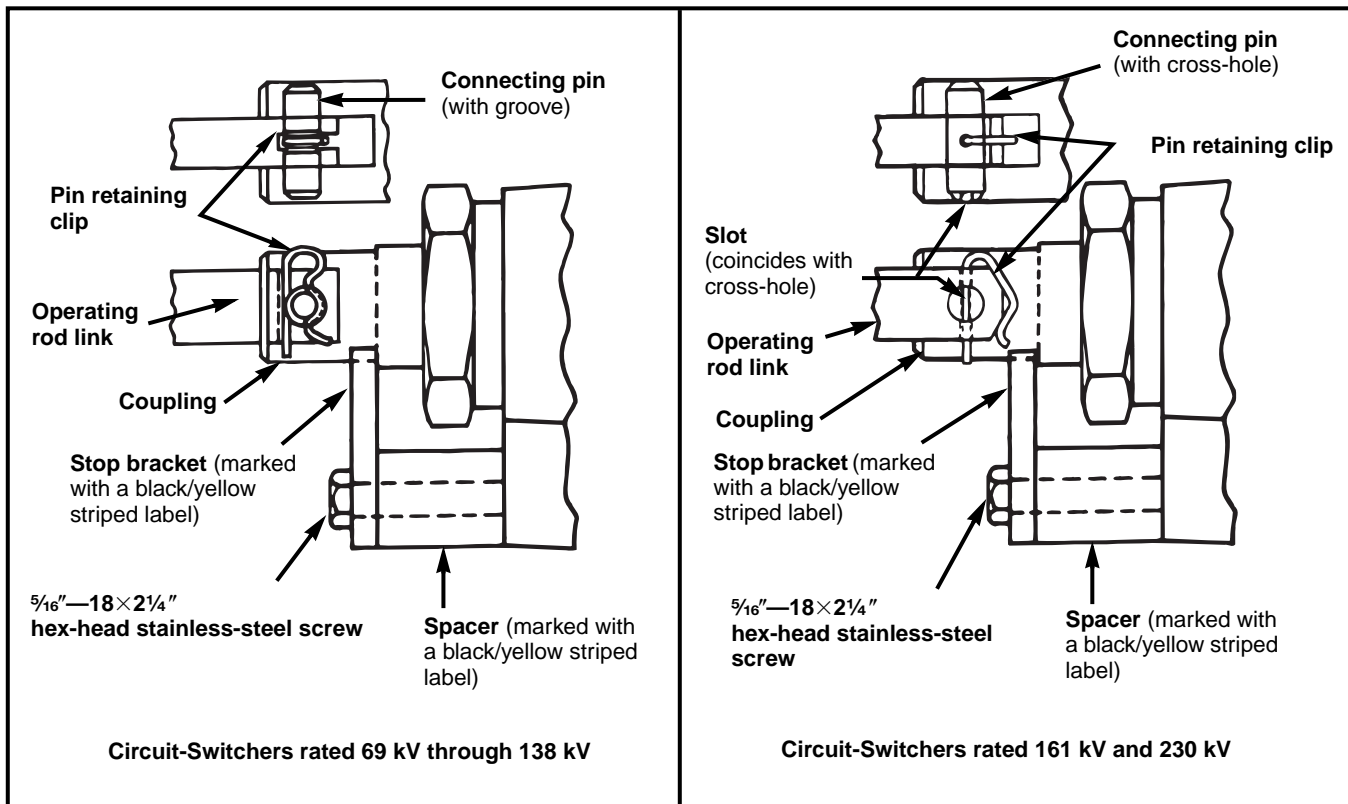

Figure 13. Coupling replacement interrupter.
**For Circuit-Switchers rated 69 kV through 138 kV:** Insert the connecting pin retained from Step 28 into the coupling and operating rod link. See Figure 13 (left). *It will be necessary to loosen the  $\frac{5}{16}$ "—18×2¼" hex-head stainless-steel screw indicated in Figure 13 (left) and withdraw it approximately ⅛ inch, so that the connecting pin can be inserted. Do not remove the screw at this time.* Now insert the pin retaining clip retained from Step 28 as indicated in Figure 13 (left). *Make sure that the clip is positioned as shown.* Finally, remove and discard the  $\frac{5}{16}$ "—18×2¼" hex-head stainless-steel screw, stop bracket (marked with a black/yellow striped label), and spacer (marked with a black/yellow striped label) illustrated in Figure 13 (left).
**For Circuit-Switchers rated 161 kV and 230 kV:** Insert the connecting pin retained from Step 28 into the coupling and operating rod link. See Figure 13 (right). *It will be necessary to loosen the  $\frac{5}{16}$ "—18×2¼" hex-head stainless-steel screw indicated in Figure 13 (right) and withdraw it approximately ⅛ inch, so that the connecting pin can be inserted. Do not remove the screw at this time.* Use a screwdriver blade in the slot at the end of the connecting pin to align the cross-hole in the connecting pin with the cross-hole in the operating rod link. Now insert the pin retaining clip retained from Step 28 as indicated in Figure 13 (right). *Make sure that the clip is positioned as shown.* Finally, remove and discard the  $\frac{5}{16}$ "—18×2¼" hex-head stainless-steel screw, stop bracket (marked with a black/yellow striped label), and spacer (marked with a black/yellow striped label) illustrated in Figure 13 (right).